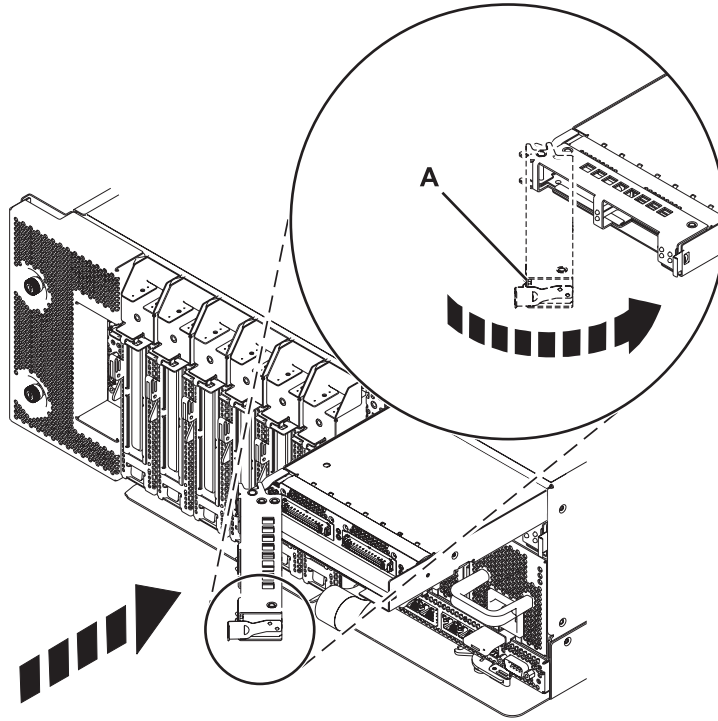

Figure 2. Installing a GX adapter in the system
12. Rotate the adapter cover in the direction shown in Figure 2 on page 6 and push it toward the card until the locking tab **(A)** snaps into place.